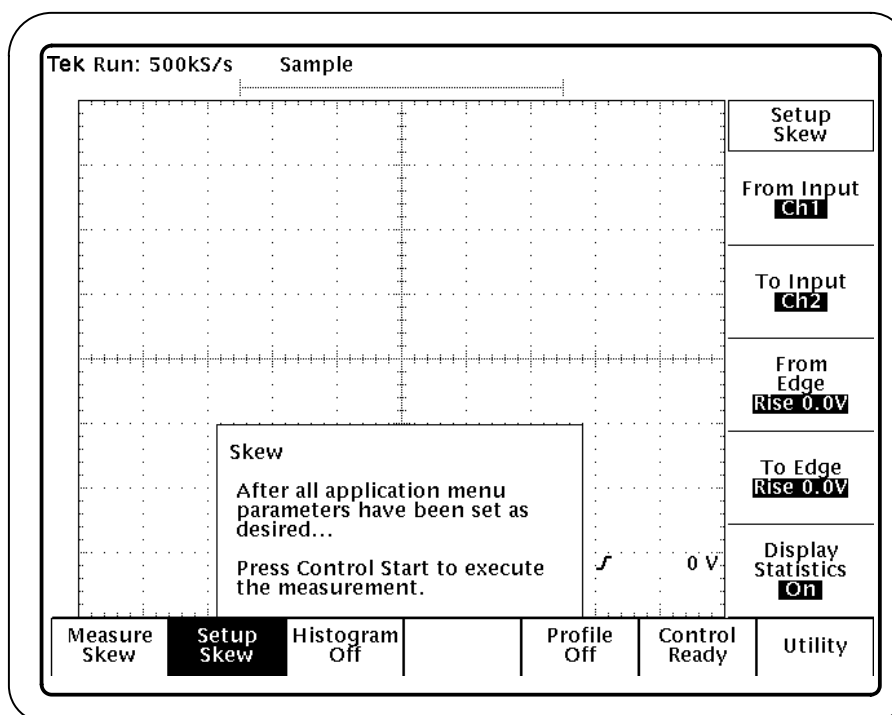

Figure 23: Setup Skew menu
2. Press Setup Skew (main) and use the Setup menu to define the waveforms between which to measure skew periods and where to start (and end) the measurement. Figure 23 shows the Setup Skew menu.